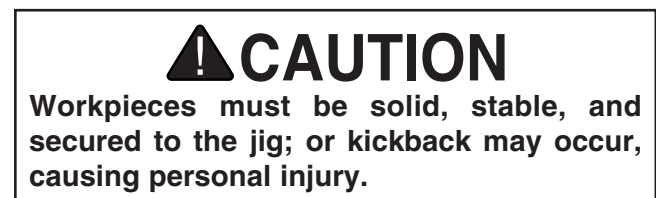

Figure 40. Pattern jig for making curved pieces.
5. Design your jig so that all cutting occurs underneath the workpiece as shown in **Figure 40**. Notice the operator is not exposed to the cutting edge of the cutter!